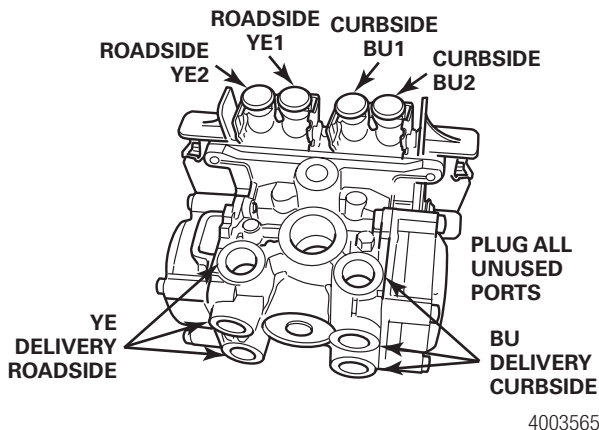

Figure 20
- If the ECU/dual modulator valve assembly is mounted with the sensors facing the REAR of the trailer, the air lines for the three delivery ports located under the YE sensor connectors must be routed to ROADSIDE; the air lines for the three delivery ports on the opposite side of the valve must be routed to CURBSIDE. Figure 20.